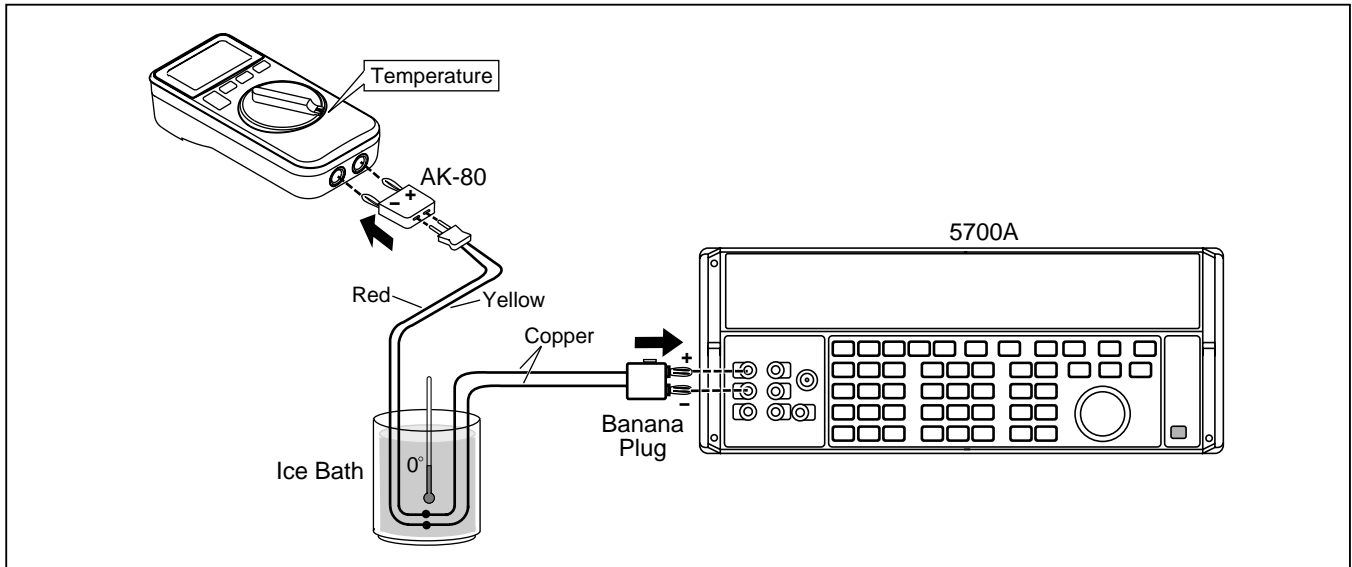

Figure 3. Performance Test for Temperature
1. Connect the equipment as shown in Figure 3.